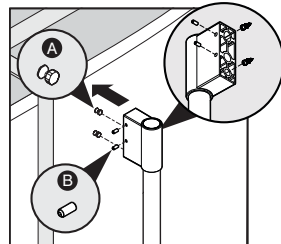

**Figure 4**
12. Push the unit to its location, 1 inch away from the wall (see Figure 4).